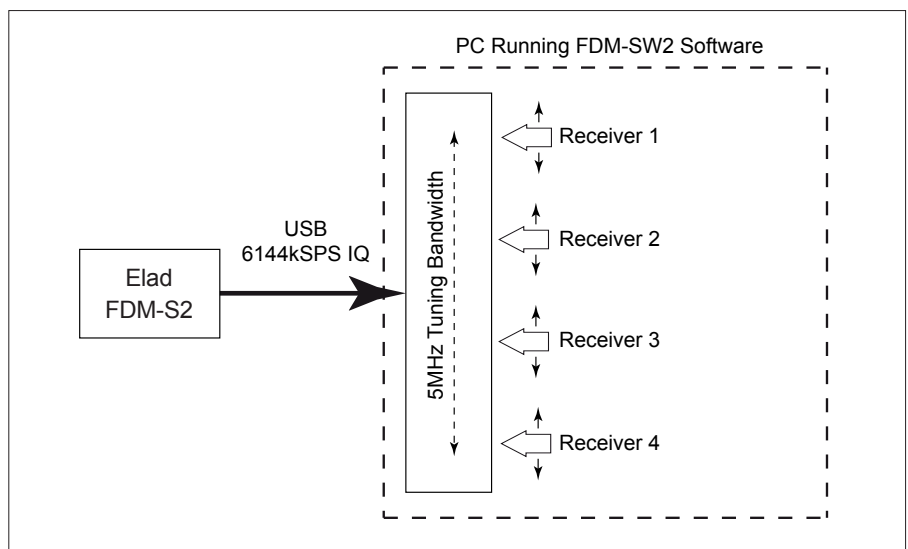

Fig. 4: Illustration of the FDM-SW2 multiple receivers operating with a 6144kSPS single channel IQ stream.
In addition to the twin IQ channels, each channel can have up to four receivers activated, providing they are all tuned to frequencies within the selected IQ bandwidth. For example, when using the largest 6144kSPS setting you have a 5MHz tuneable bandwidth available, so each of the four receivers could be tuned anywhere within that band. I've shown an illustration in Fig. 4. I found the easiest way to see activity in each channel was to open an intermediate frequency (IF) spectrum window for each receiver. Not only does that let you see the activity but it also allows you to fine-tune and adjust the filter width for each receiver.